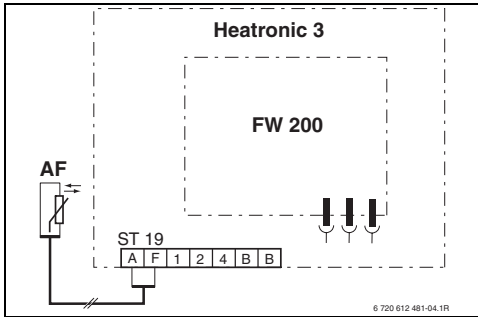

Fig. 16 Controls installed in boiler via BUS contacts in BUS-enabled Heatronic 3.
- ▶ Make the electrical connections (→ Fig. 16 or 17 on page 19).